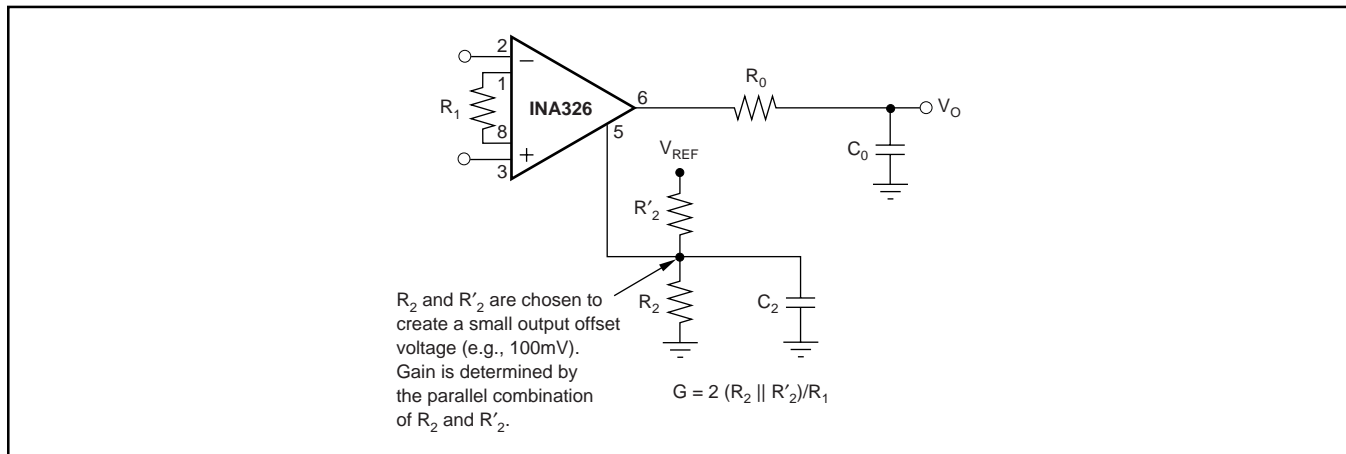

FIGURE 6. Generating Output Offset Voltage.
NOTES: (1) C2 and CO combine to form a 2-pole response that is -3dB at 1kHz. Each individual pole is at 1.5kHz. (2) Output voltage is referenced to IA,COMMON (see text). (3) Output offset voltage required for measurement near zero (see Figure 6).